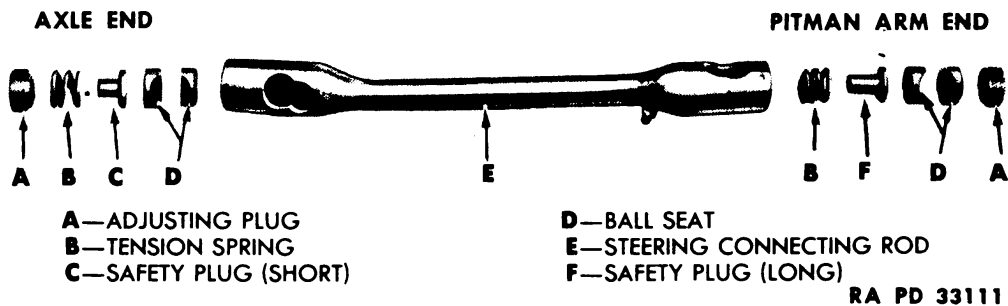

Figure 115—Steering Connecting Rod
a. Remove the end plug from the rear end of the steering connecting rod, and pull the rod off the ball on the Pitman arm. Remove the nut and lock washer from the end of the Pitman shaft, and pull the Pitman arm off the Pitman shaft with puller (41-P-2952). Install the new Pitman arm, lock washer, and nut; and tighten the nut securely. Install the steering connecting rod on the Pitman arm ball, making sure that the ball seats are in the proper position around the ball (fig. 115). Then tighten the end plug until it bottoms, back it off 1/2 turn, and install a new cotter pin. Lubricate the fitting on the steering connecting rod.
a. Remove the end plugs from each end of the connecting rod, and pull the rod off the two ball ends. Install the steering connecting rod on the steering arm and Pitman arm ball with the springs, safety plugs, and ball seats in the correct position in the rod (fig. 115), making sure that the ball seats fit properly around the balls. Tighten the end plugs in tight, back them off 1/2 turn, and install a new cotter pin. Lubricate the steering connecting rod.
f. **Assemble Steering Connecting Rod.** Install the steering connecting rod over the ball on the Pitman arm, making sure the parts are assembled according to the sequence shown in figure 115. Then tighten the adjusting plug until it bottoms, and back it off 1/2 turn and install a new cotter pin. Lubricate the fitting on the steering connecting rod.